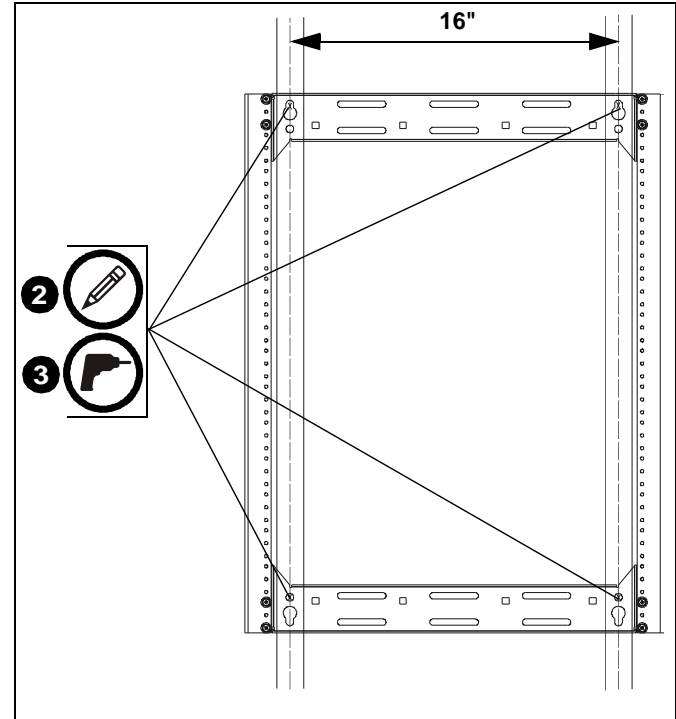

Figure 10
2. Place assembled frame over studs and mark hole locations. (See Figure 10)
3. Drill four 7/32" (5.5mm) diameter holes to a depth of 3 1/2" (89mm) at marked locations. (See Figure 10)